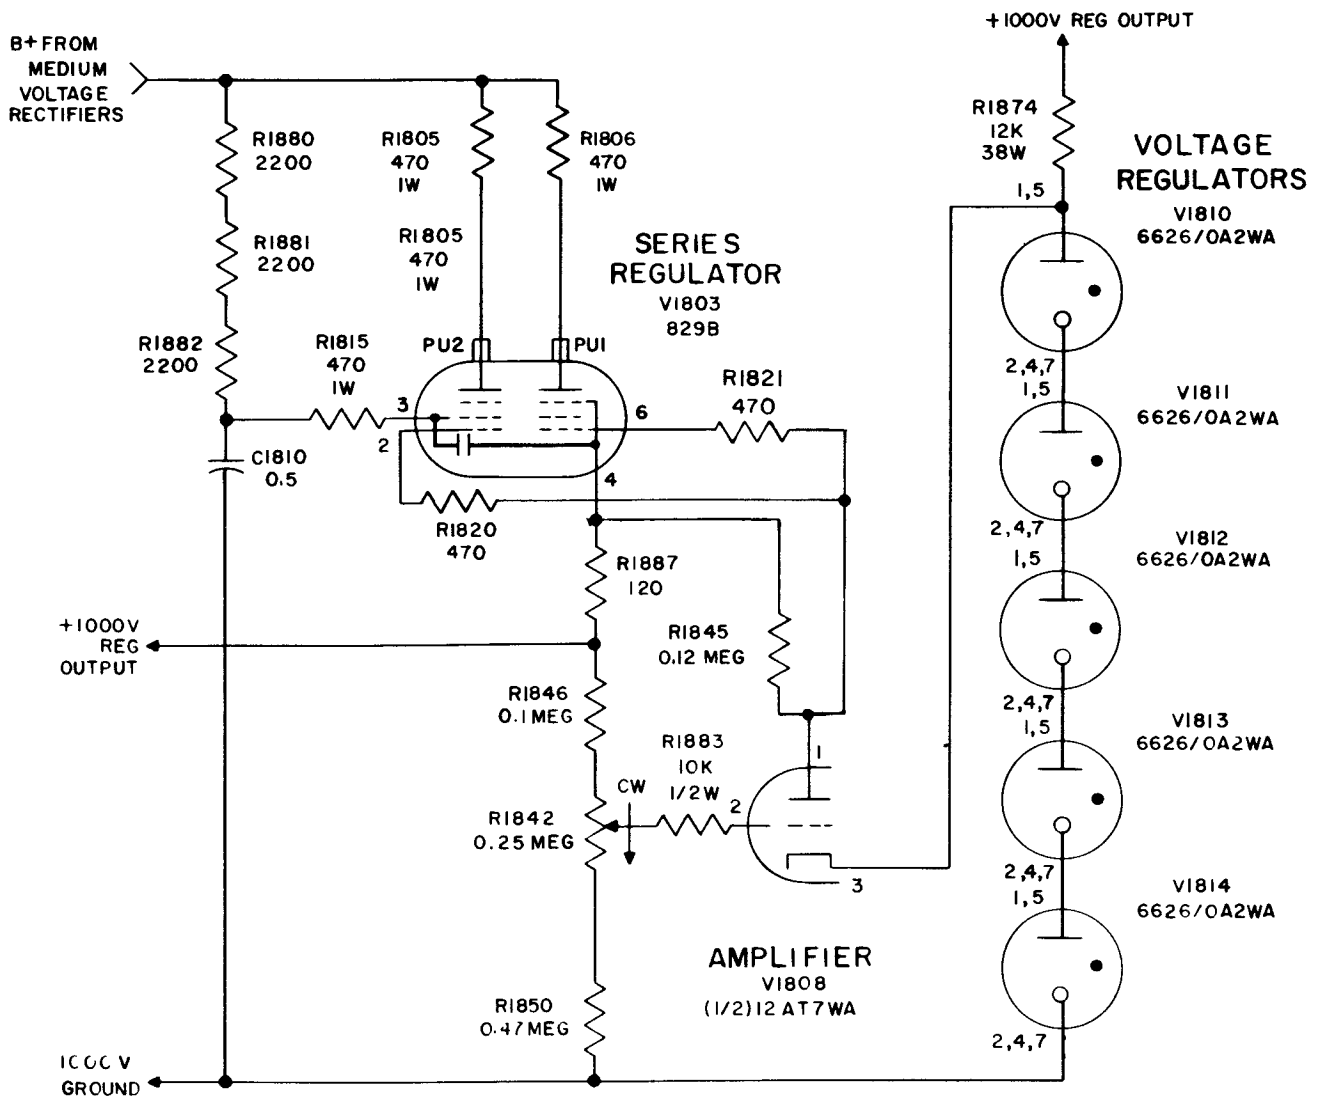

Figure 4-40. Medium Voltage Power Supply PP-1765/URN, Voltage Regulator, Simplified Schematic Diagram
(d) **MEDIUM VOLTAGE POWER SUPPLY PP-1765/URN.** — The medium voltage power supply unit (figure 6-25) contains one full-wave rectifier employing two tubes 836. The rectifier plate transformer T1801 primary is connected to the incoming 120-volt, single-phase power by the contactor K1804, operated by the control circuit. A capacitor input filter is connected in the unregulated rectifier output circuit. A series-type regulator (figure 4-40), is connected in the filter output circuit to provide the 1000-volt output. The 1000-volt series-type regulator uses five pentodes 829B in parallel. Capacitor filter C1802 is connected in the 1000-volt output circuit of the voltage regulator. A positive 700 volts is obtained by voltage dropping across series resistors
The 1000-volt output is applied across potentiometer R1874 and tubes V1810 through V1814 in series. The grid bias for the series regulators is obtained in the following manner (figure 4-40): The cathode (3)